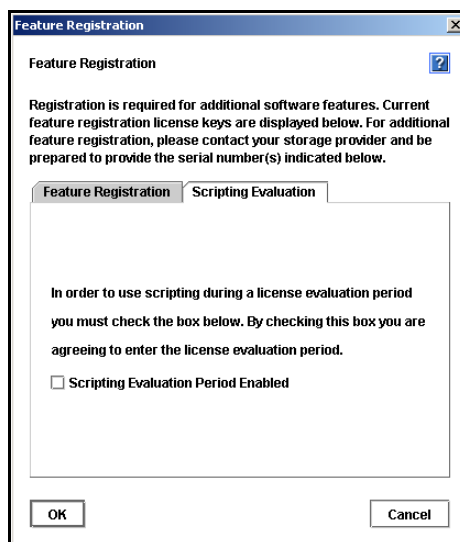

Figure 217. Enabling Scripting Evaluation
4. Select the Scripting Evaluation tab, shown in Figure 217.